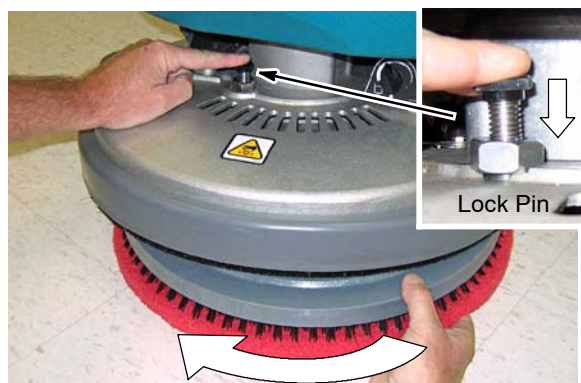

FIG. 12
- To remove the pad driver/brush, press down on the motor hub lock pin and turn the pad driver/brush clockwise (Figure 12).